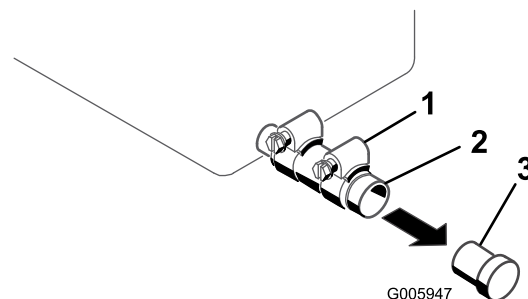

Figure 29
4. Place a pan under the oil drain tube (Figure 29).
5. Loosen the clamp and remove the plug (Figure 29).